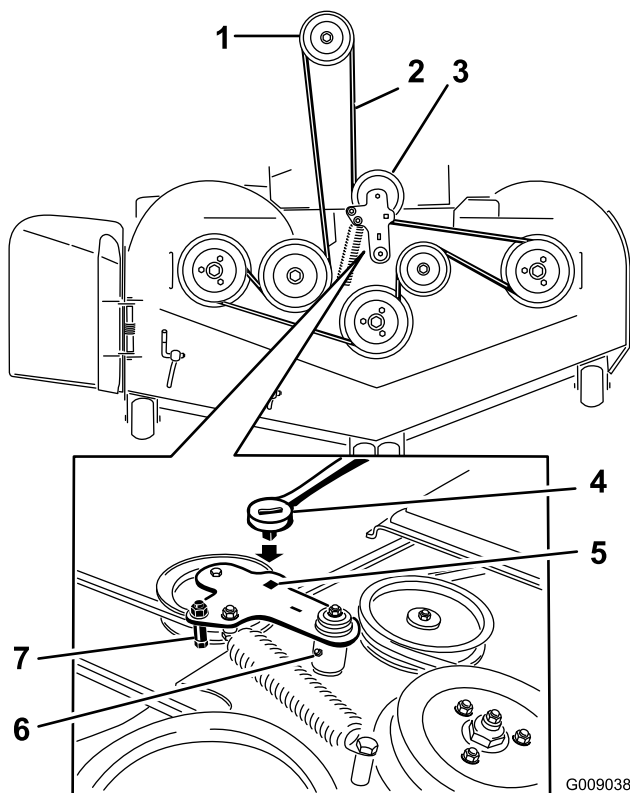

Figure 98
5. Use a ratchet in the square hole in the idler arm to remove tension on the idler spring (Figure 98).
7. Remove the belt guide on the spring-loaded idler arm (Figure 98).
9. Install the new belt around the mower pulleys and the clutch pulley under the engine (Figure 98).
10. Install the belt guide on the idler arm (Figure 98).
11. Using the ratchet in the square hole, install the idler spring (Figure 98).